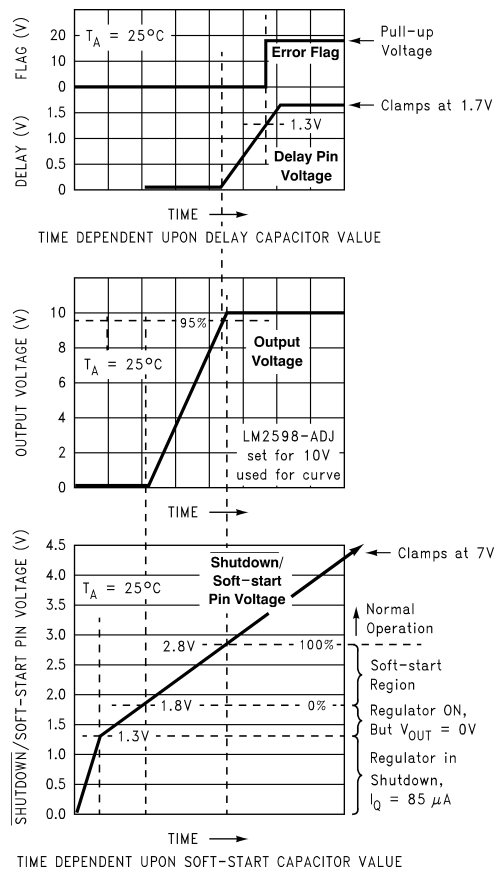
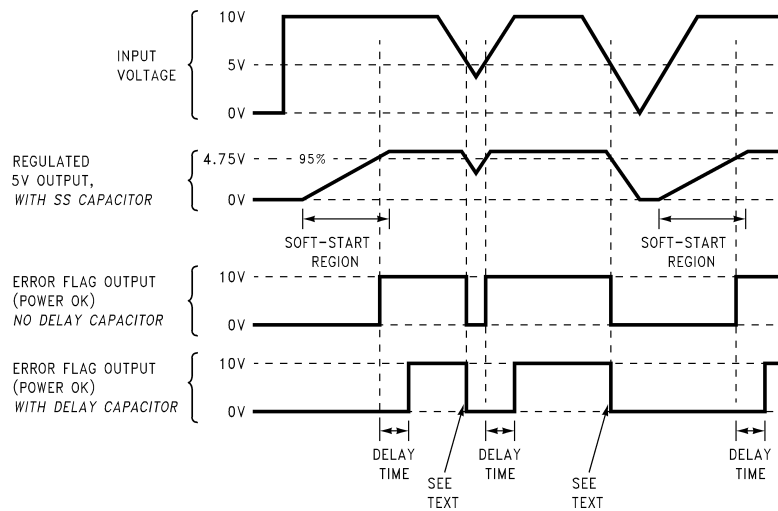

FIGURE 13. Soft-start, Delay, Error, Output
FIGURE 14. Timing Diagram for 5V Output
C_{SS} — A capacitor on this pin provides the regulator with a Soft-start feature (slow start-up). When the DC input voltage is first applied to the regulator, or when the $\overline{SHUTDOWN}$ /Soft-start pin is allowed to go high, a constant current (approximately $5 \mu A$) begins charging this capacitor). As the capacitor voltage rises, the regulator goes through four operating regions (See the bottom curve in Figure 13).
3. Soft-start Region. When the \overline{SD} /SS pin voltage is between 1.8V and 2.8V (@ 25°C), the regulator is in a Soft-start condition. The switch (Pin 1) duty cycle initially starts out very low, with narrow pulses and gradually get wider as the capacitor \overline{SD} /SS pin ramps up towards 2.8V. As the duty cycle increases, the output voltage also increases at a controlled ramp up. See the center curve in Figure 13. The input supply current requirement also starts out at a low level for
Note: The lower curve shown in Figure 13 shows the Soft-start region from 0% to 100%. This is not the duty cycle percentage, but the output voltage percentage. Also, the Soft-start voltage range has a negative temperature coefficient associated with it. See the Soft-start curve in the electrical characteristics section.
C_{DELAY} — Provides delay for the error flag output. See the upper curve in *Figure 13*, and also refer to timing diagrams in *Figure 14*. A capacitor on this pin provides a time delay between the time the regulated output voltage (when it is increasing in value) reaches 95% of the nominal output voltage, and the time the error flag output goes high. A 3 μA constant current from the delay pin charges the delay capacitor resulting in a voltage ramp. When this voltage reaches a threshold of approximately 1.3V, the open collector error flag output (or power OK) goes high. This signal can be used to indicate that the regulated output has reached the correct voltage and has stabilized.